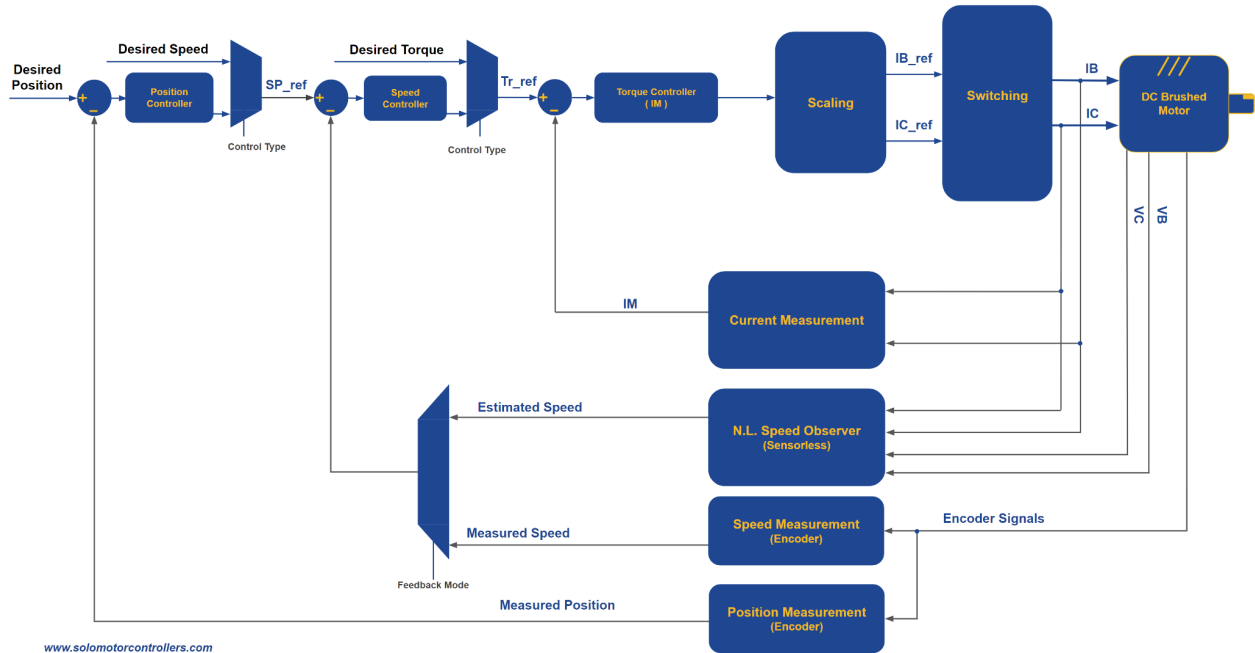

Figure 2 - Control Architecture of SOLO MINI_v2 for DC Brushed Motors
- All The sections are referred to in **Figure 2** below
In general, we can divide the whole control architecture of SOLO for two different types of Motors, the 3-phase motors that can be seen in Figure 1 and the Brushed DC motors that can be seen in Figure 2 below, as can be seen in these figures, the main foundation of the architecture of motor controlling in SOLO is based on four fundamental controllers:
As can be seen in Figure 2, the main architecture of Motor Controlling for DC brushed motors in SOLO follows a very similar pattern to 3-phase Motors Controlling with FOC, however the architecture is generally simple with only one cascade loop of Torque, Speed and Position. Similar to 3-phase motors, for DC brushed Motors, SOLO offers both Sensor-less and Sensor-based controls as well as Servo-Driving in case an Incremental Encoder is attached to the Motor, so the whole control strategy and tunings are identical to the 3-phase motors with minor differences on the processing methods.